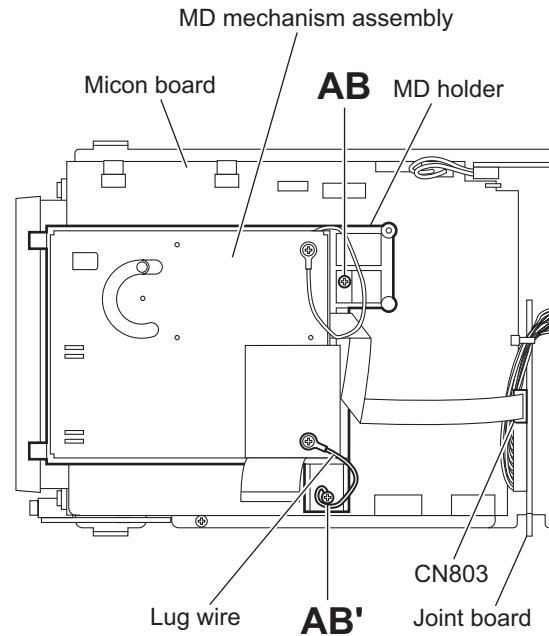

Fig.21
(See Figs.21 and 22)
- (1) From the top side of the main body, disconnect the card wire from the connector CN803 on the joint board. (See Fig.21.)
- (2) Remove the screw **AB** and screw **AB'** attaching the MD holder to the micon board. (See Fig.21.)
- (3) Take out the MD holder with the MD mechanism assembly.
When attaching the screw **AB'**, attach the lug wire with it. (See Fig.21.)